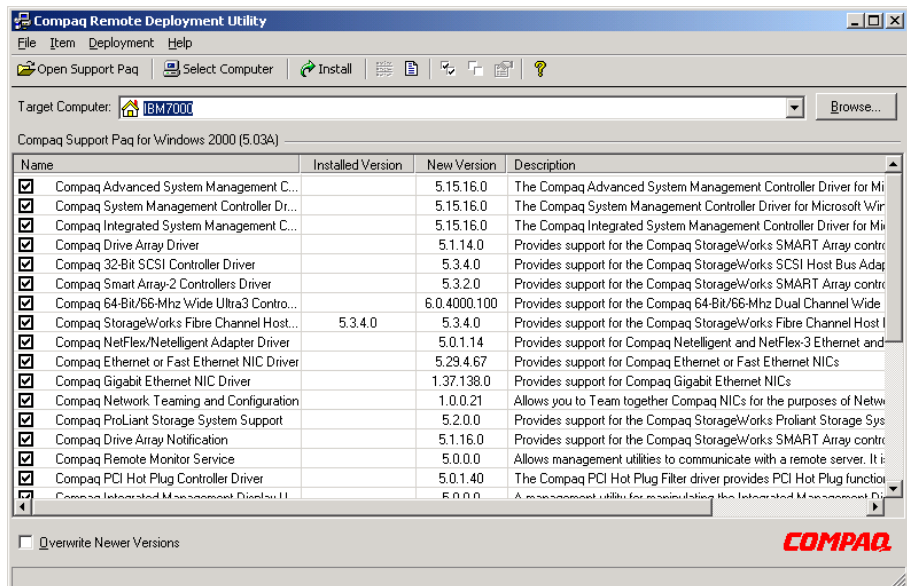

Figure 4-2. Compaq Remote Deployment Utility
5. The Compaq Remote Deployment Utility dialog box appears, as shown in Figure 4-2.